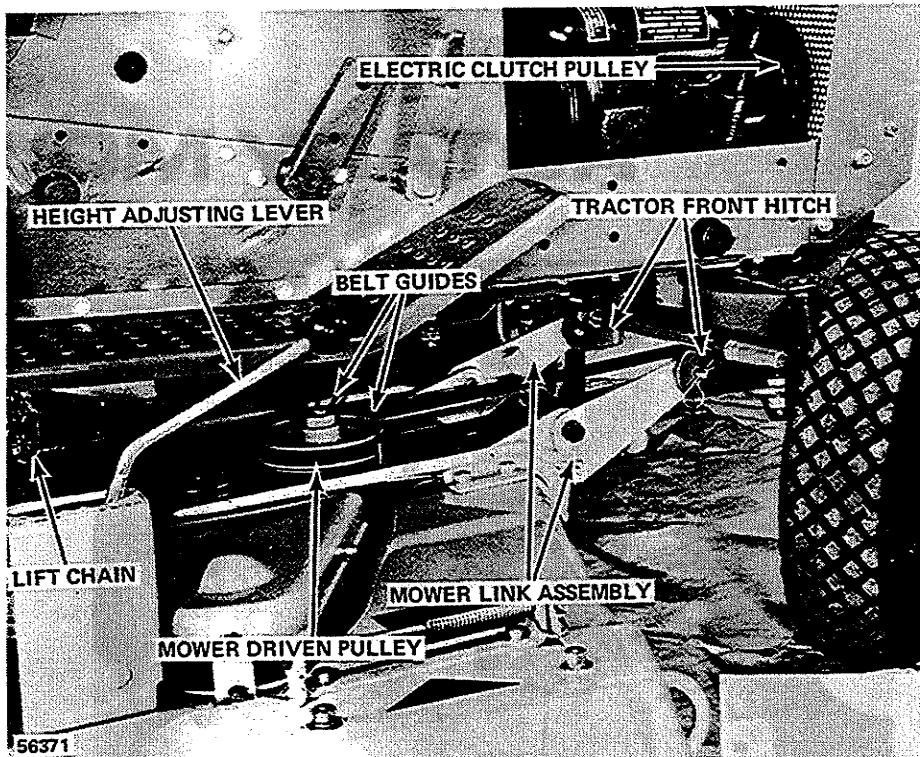
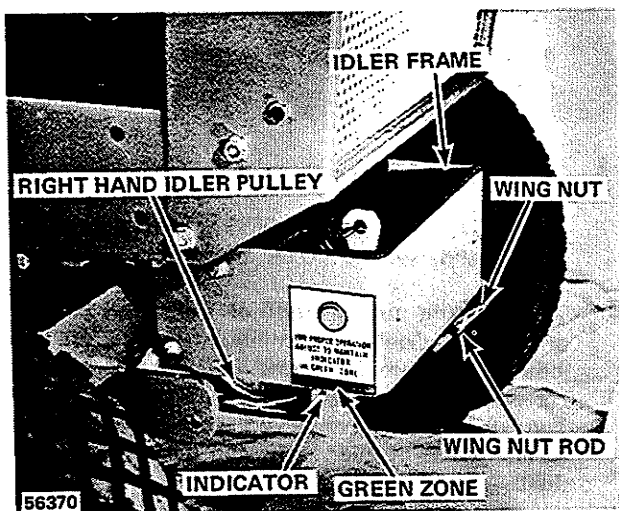

FIGURE 2
FIGURE 3
2. Lift front of mower and align holes in mower link assembly with holes in tractor front hitch and install round head pins and lock pins as shown in Figure 2.
3. With mower in low cutting position, loosen wing nut and back it off almost to end of wing nut rod (Figure 3). Place belt over electric clutch pulley, (Figure 2), over the right hand and left hand idler pulleys, and over the mower driven pulley.
4. Tighten wing nut at front of tractor to tighten drive belt. Continue turning wing nut until the indicator (Figure 3) moves into the rear half of "green" zone on decal on right side of idler frame. Turn nut and lockwasher on wing nut rod down against inside of idler frame and tighten wing nut tight.
5. Adjust belt guides to 1/16 to 1/8 inch clearance with mower belt (Figure 2).